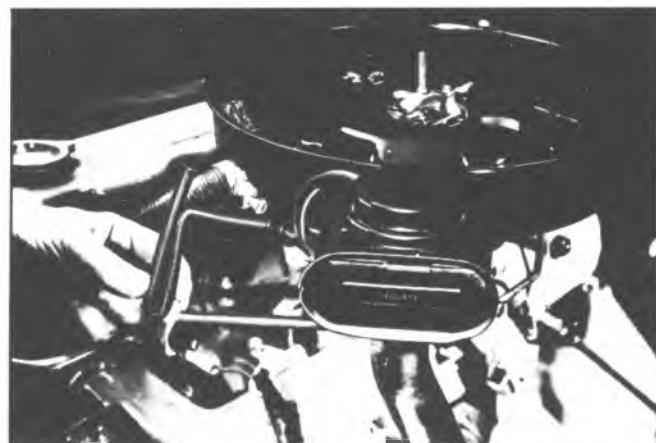

Fig. 13A--Checking Vacuum Diaphragm
- c. With vacuum applied, bend or clamp hose to trap vacuum in diaphragm assembly (fig. 13A).